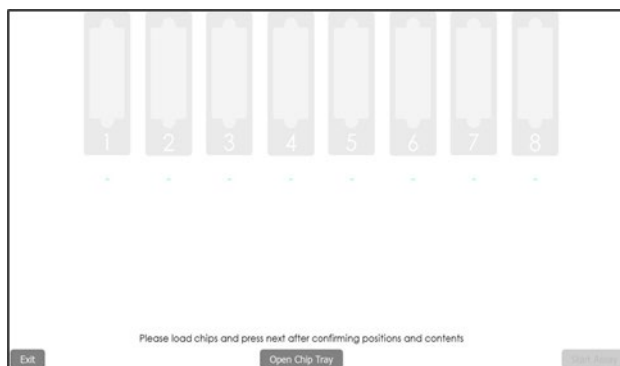

Figure 86 - Chip loading screen
1. Once the screen looks like Figure 86, follow the appropriate Sample Preparation Protocol to prepare and load the chips with samples.